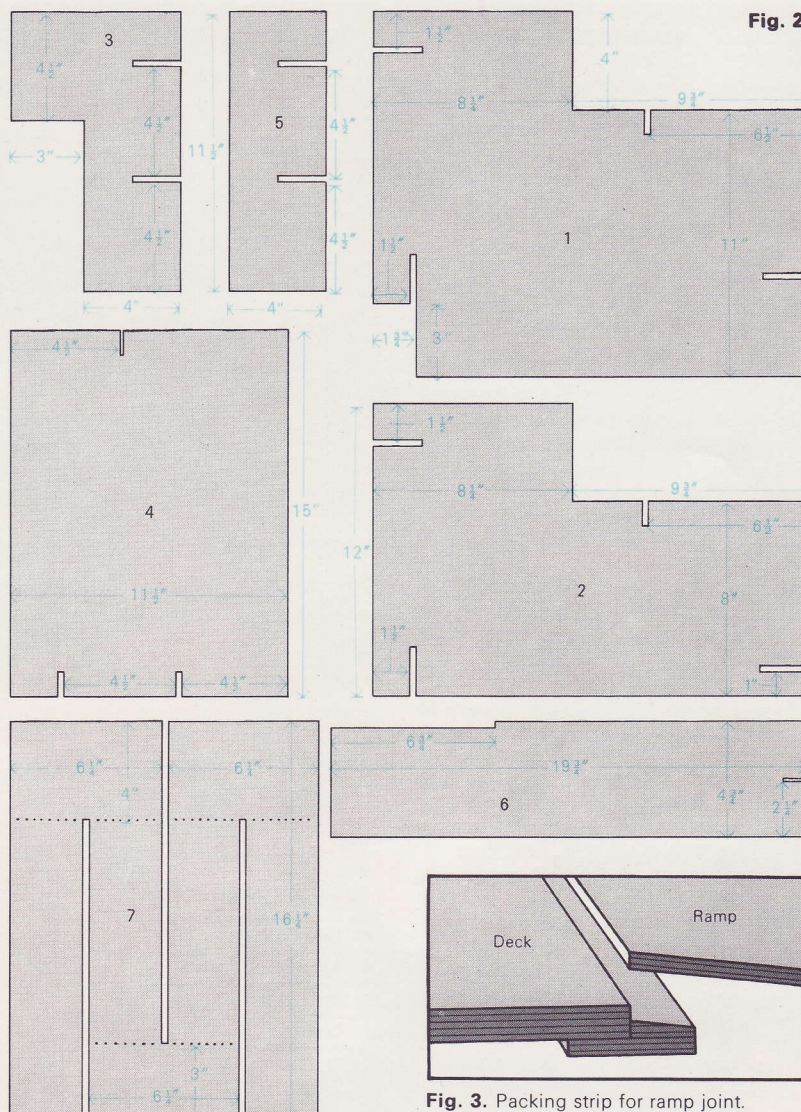

Fig. 2.
Mark out lower deck (1), upper deck (2) side wall (3), central wall (4), back and front walls (5) and low wall (6) on sheet of $\frac{1}{4}$ in. thick plywood, to dimensions given in fig. 2.
Cut ramp (7) from $\frac{1}{8}$ in. thick plywood, with grain of face veneers running along short side. Cut $\frac{1}{4}$ in. wide slots. Make saw cuts through face veneer only on underside as shown by dotted lines (fig. 2).